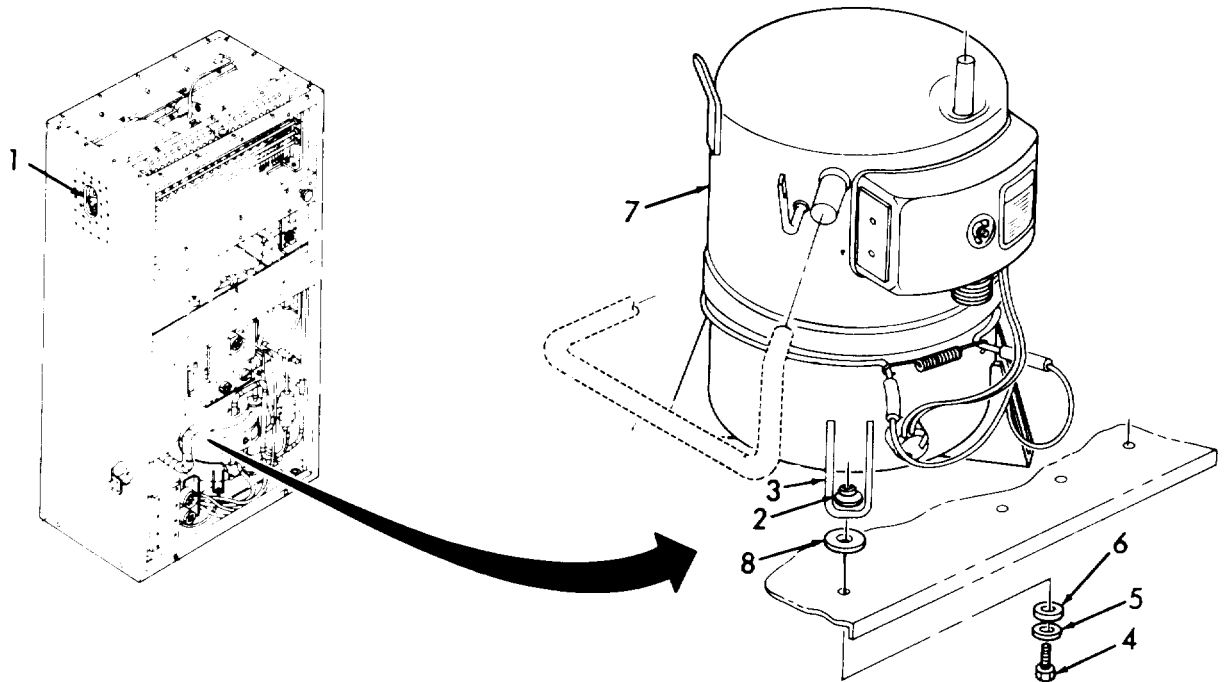

Figure 5-19. Compressor Replacement.
(12) Fill reservoir with fluorocarbon refrigerant R-11 (Appendix E, item 19) and start the pump. Continue filling the reservoir with refrigerant R-11 (Appendix E, item 19) until it begins to pour out of the return line. Continue flushing for at least 15 minutes.
(13) Reverse the pump connections, replace the filter with a new filtering medium, and backflush the system for an additional 15 minutes.
(14) Remove the pump, reservoir, filter, and filter-dryer dehydrator jumper. Place an empty container below the compressor connections, and connect a cylinder of dry nitrogen to each filter/dryer dehydrator connection in turn. Blow down each leg of the system at 50 psig (3.5 kg/cm²) for at least 30 seconds.
(15) Disconnect the dry nitrogen cylinder. Cap or plug open connections if compressor and filter/dryer dehydrator are not to be installed immediately.
g. Compressor Installation. (Refer to Figure 5-19).